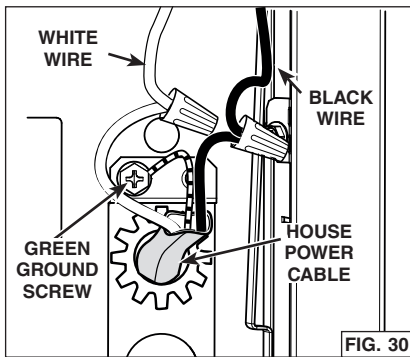

FIG. 30
Use 6-in. round, 8-in. round or 3/4" x 10" metal duct to connect the adapter damper on the top of the unit to the ductwork above (FIG. 30, 8-in. round not shown). Seal the joint using aluminum duct tape.
- Using appropriate wire nuts (not included), connect house power cable to unit wiring: BLACK to BLACK, WHITE to WHITE and GREEN or bare wire to GREEN ground screw (FIG. 30).